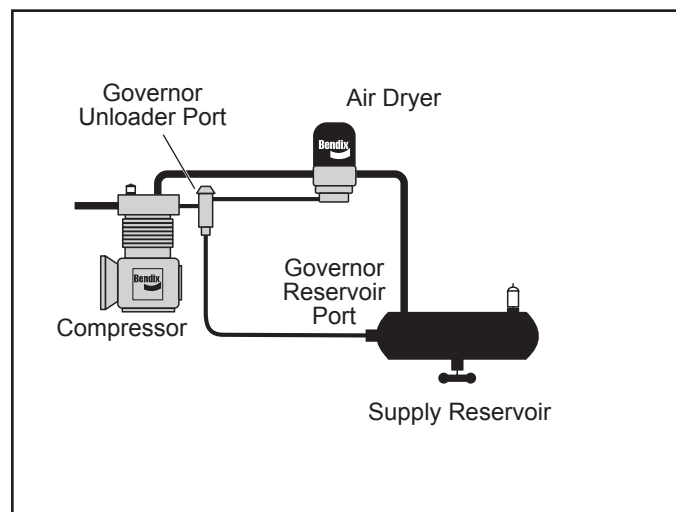

FIGURE 5 - **CHARGING SYSTEM WITH BENDIX SNA-01 COMPRESSOR**
Bendix SNA-01 air compressors are only permitted to be naturally aspirated — use of engine turbocharger as an air source is not allowed. See Figure 5 for an example of a naturally aspirated air induction system.
2. Make certain the unloader system lines are connected as illustrated in Figure 5.